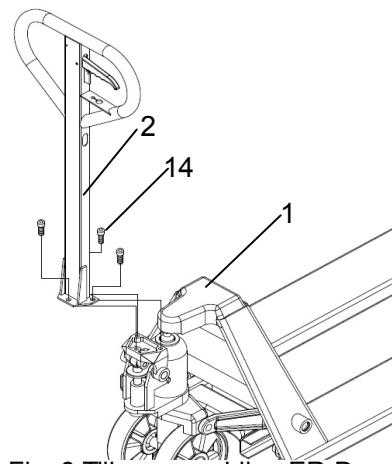

Fig. 8 Tiller assembling ER-D
- 1 pc tiller arm (2, Fig.8)
- 3 pc screws (14, Fig.8 fixed to the tiller interface of the chassis)
- 1 pc pre-assembled chassis with pump unit (1, Fig.8)
- c) If the forks do not descent when the control handle is in the **Lower** position, turn the adjusting nut clockwise until raising the control handle lowers the forks. Then check the **Neutral** position according to fig. 8 and be sure that the adjusting nut is in the proper position.